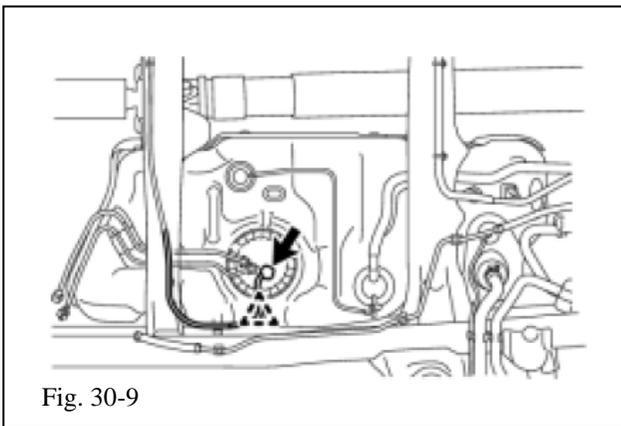

Fig. 30-9
- ⚠ (m) Slowly lower the fuel tank and disconnect the fuel pump connector (Fig. 30-9).